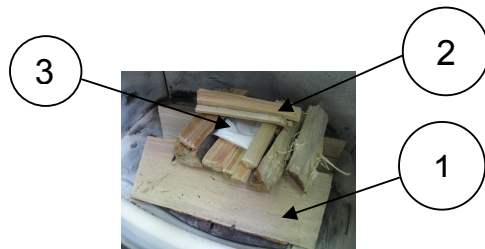

Figure 3: ignite the fire
Put 2-3 logs of wood at the firebox bottom (1) and put the kindling (2) on top. Place a wood lighter aid on top and in the middle of the kindling, light it (see fig. 3) and close the door.